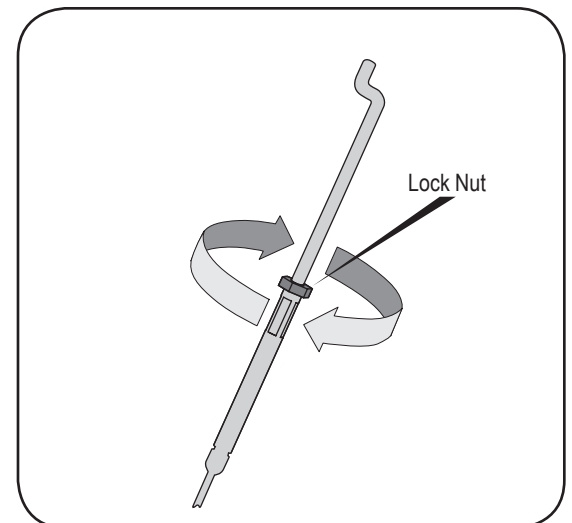

Figure 5-10: Reverse drive belt removal.
4. Retighten the lock nut against the cable collar. See Figure 5-10.